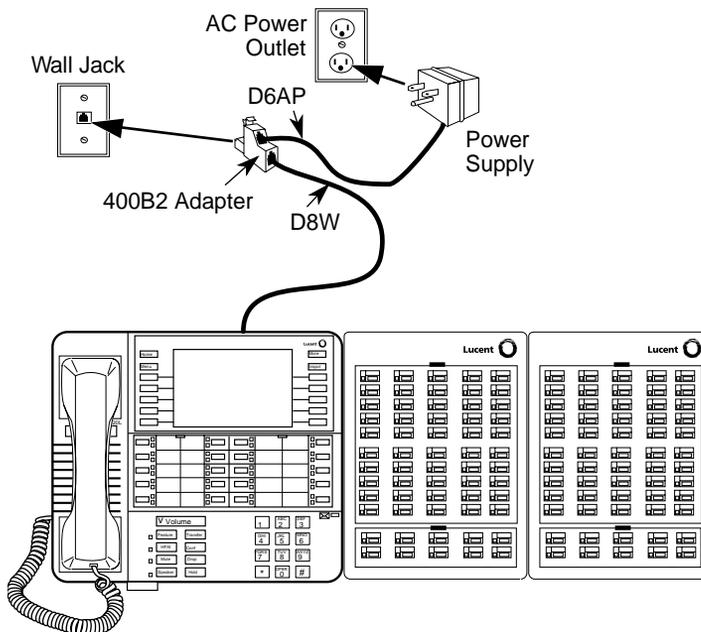

Figure 3-19. Powering Up the Telephone after Installing the MFM
► **12. Power up the telephone. See Figure 3-19.**